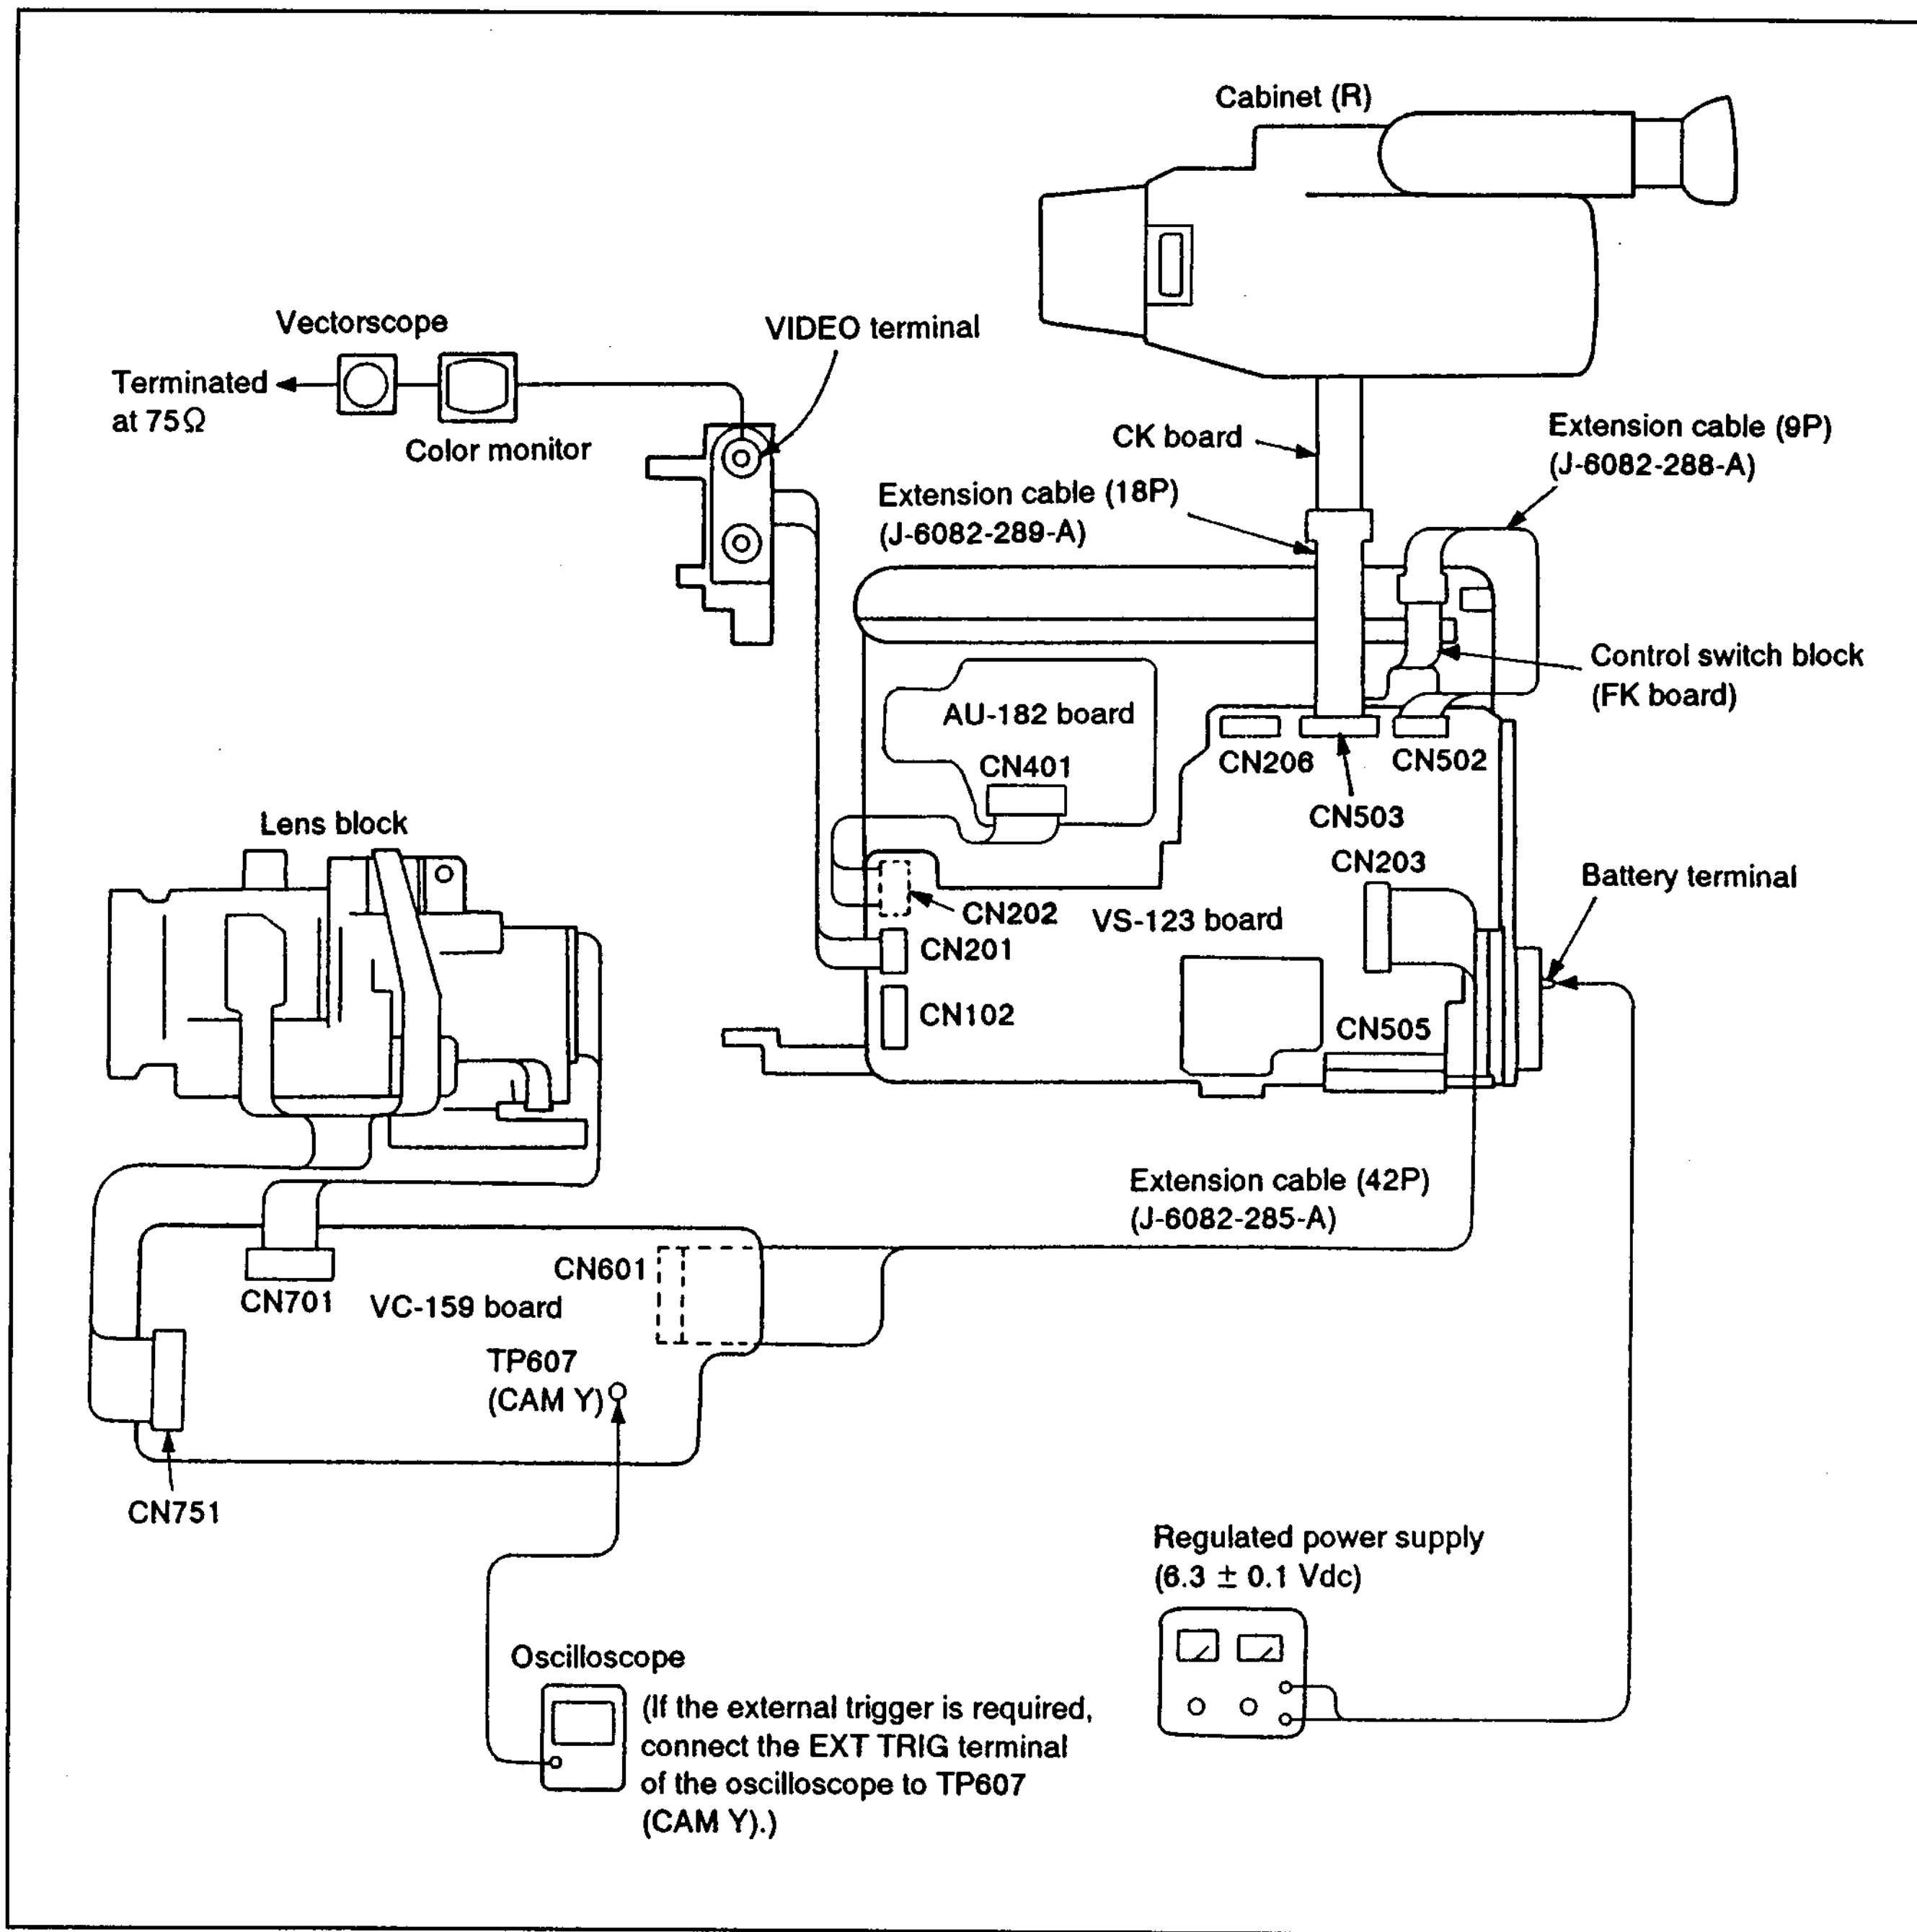

Fig. 7-1-3.
- 1) Connect the equipments for adjusting as shown in Fig. 7-1-3.